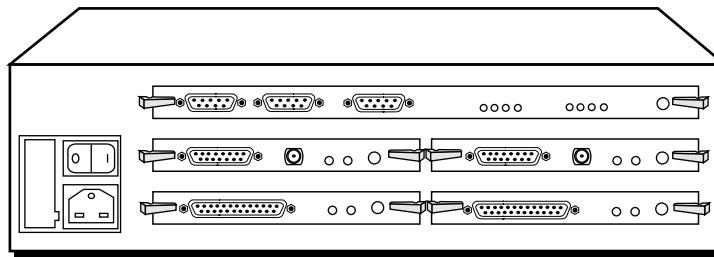

Figure 2-4 HSS V.35 Module Board Installed
- 3 Check that the connector/LED panel of the newly inserted module is flush with the NETBuilder II chassis, and is aligned with the connector/LED panel(s) of any other installed module(s) to verify that the board is seated correctly (see Figure 2-4).